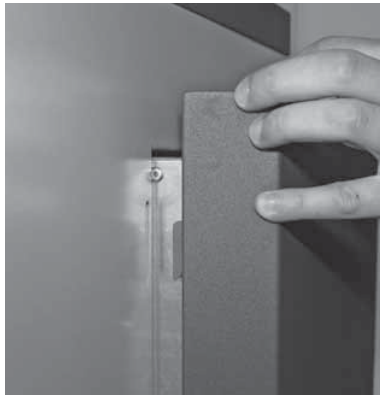

Fig. 32 Hooking in side panels at the rear
- Hook in the "rear side panels" (parts 1 and 7) – Fig. 32.